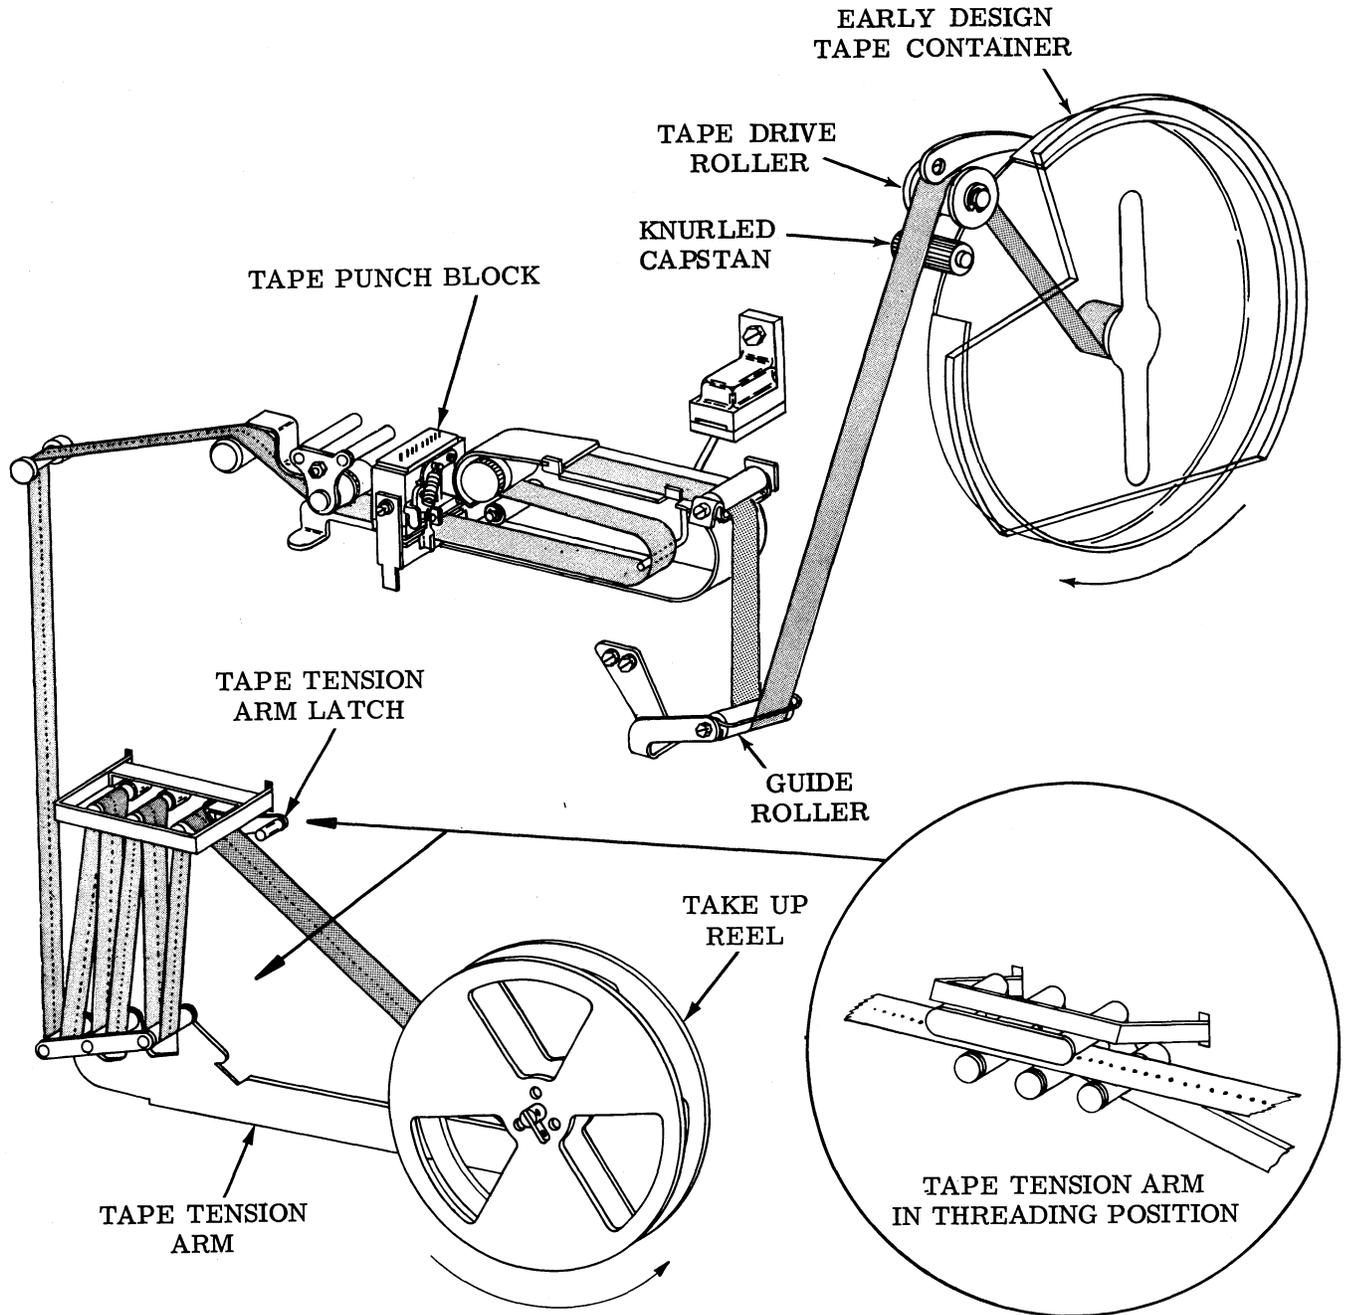
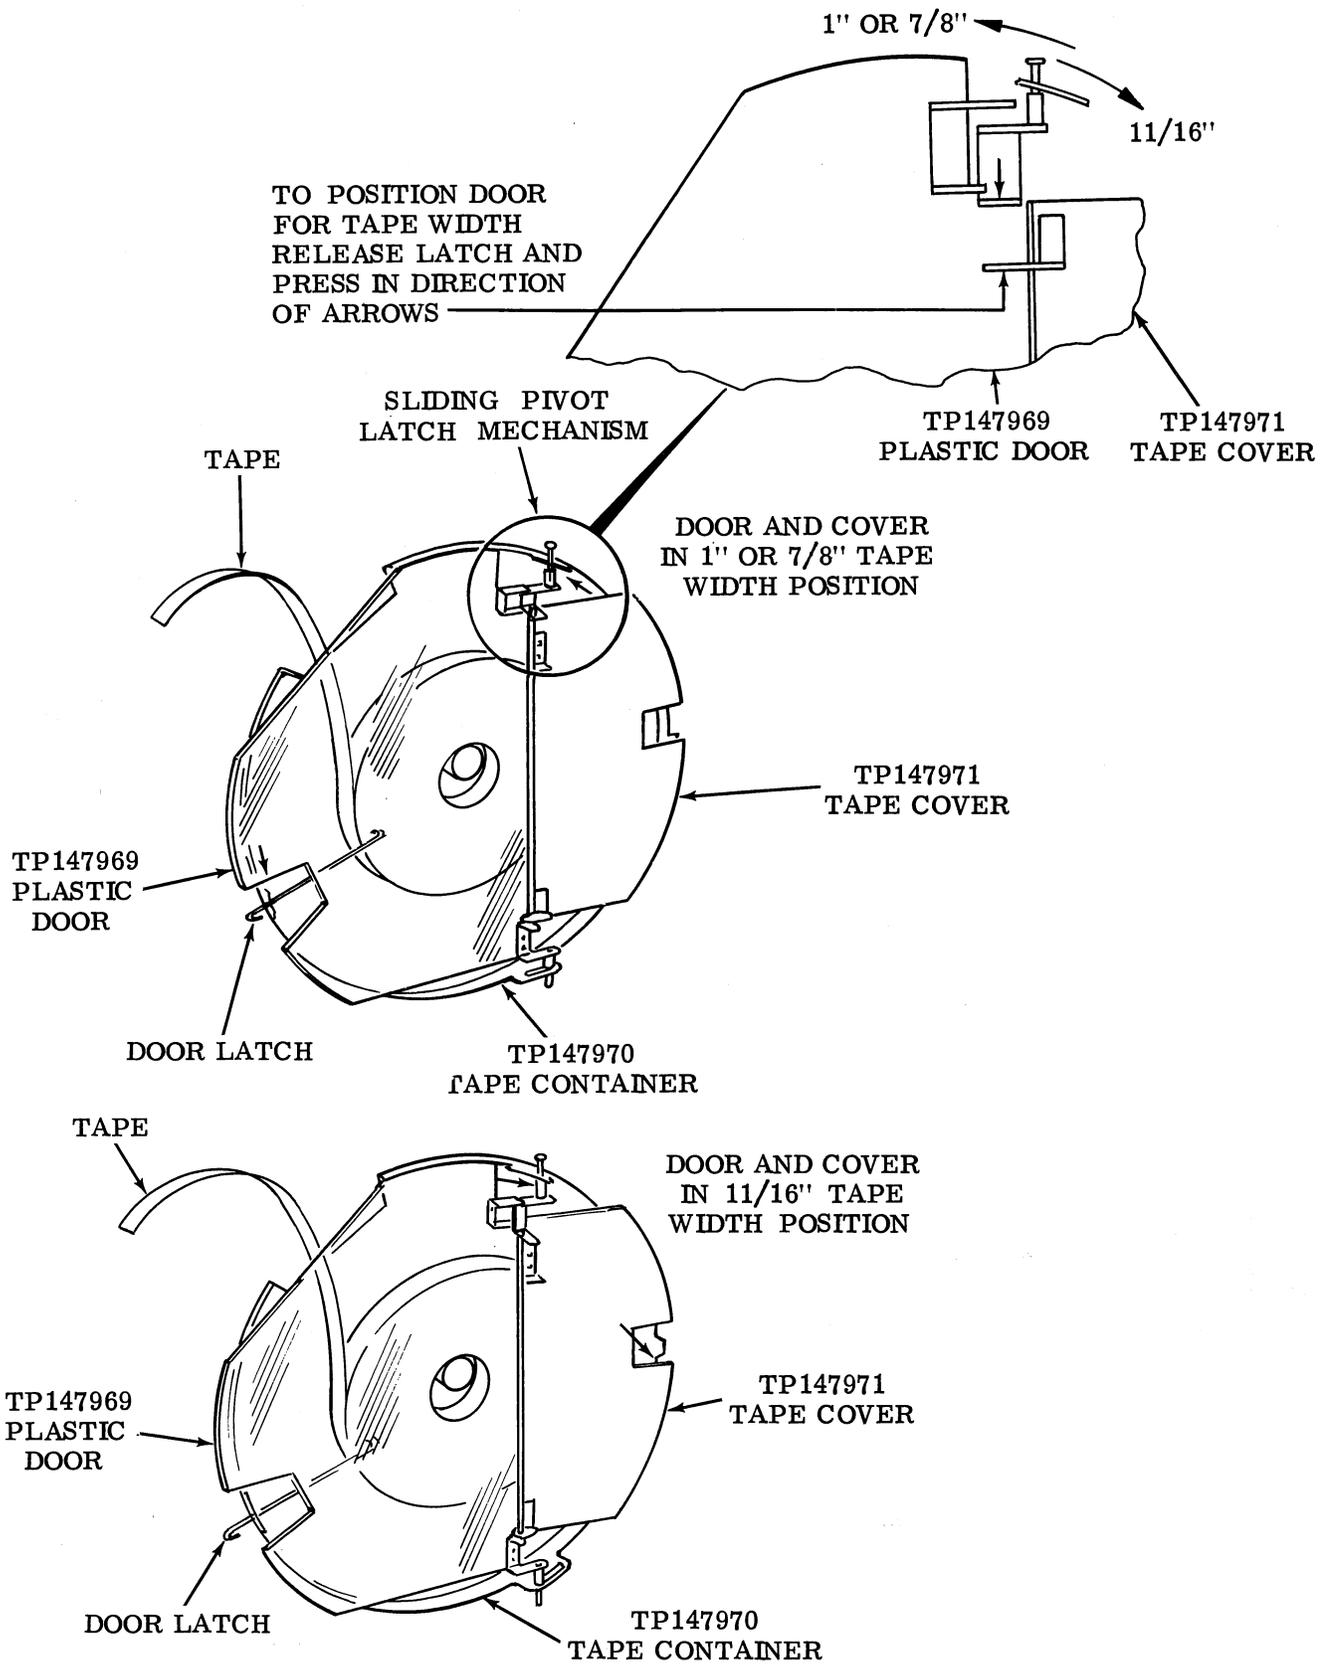

Figure 4 - Tape Path
Figure 5 - Late Design Tape Container
3.03 The tape insertion procedure is as follows (see Figures 4 and 5).
- (1) Withdraw the punch mounting panel to gain access to the tape supply bin.
- (2) Place the tape supply reel on the fixed supply reel spindle so that it unwinds in a clockwise direction.
- (3) Position the tape container door (Figure 5) for the proper tape roll width in late designed equipment.
- (4) Close the mounting panel and remove the transparent tape punch cover by lifting the cover slightly and pulling forward. The cover is secured by magnetic latches.
- (5) Thread the tape through the rollers and punch as shown in Figure 4. It will be necessary to turn on the equipment power to retract the punch pins.
- (6) With blank tape threaded through the punch, hold down the BLANK F. O. key while pulling the free end of the tape, until the tape is capable of feeding normally under
4.04 The tape take-up reel is driven by a motor and reduction gear assembly mounted on the rear of the drawer panel. A mercury switch on the tape-tension arm (Figure 4) controls the take up spool motor. As the tape punch operates it will introduce slack tape at the punch output, allowing the tape-tension arm to drop. The mercury switch is adjusted to complete the motor operate circuit when the tape-tension arm drops to a predetermined level. The take-up reel then rotates to take up slack and shuts off as the slack is taken up.